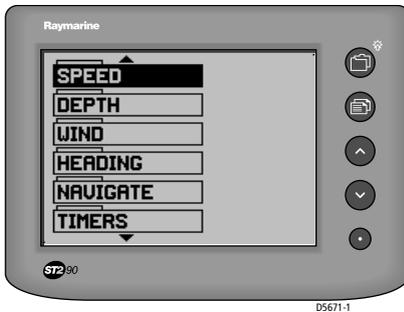

Figure 2-2: Chapter menu
1. Press the  button to enter Chapter Select mode. The chapter menu is displayed (*Figure 2-2*).